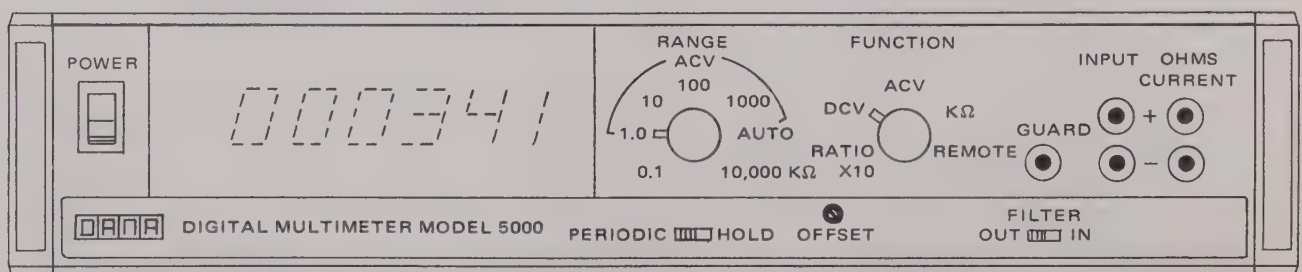

Figure 2.3 - Front Panel
2.19 All operating controls are located on the front panel of the instrument. They are shown in figure 2.3 and described in table 2.2 (except FRONT/REAR switch, shown in figure 6.17, page 6-21).